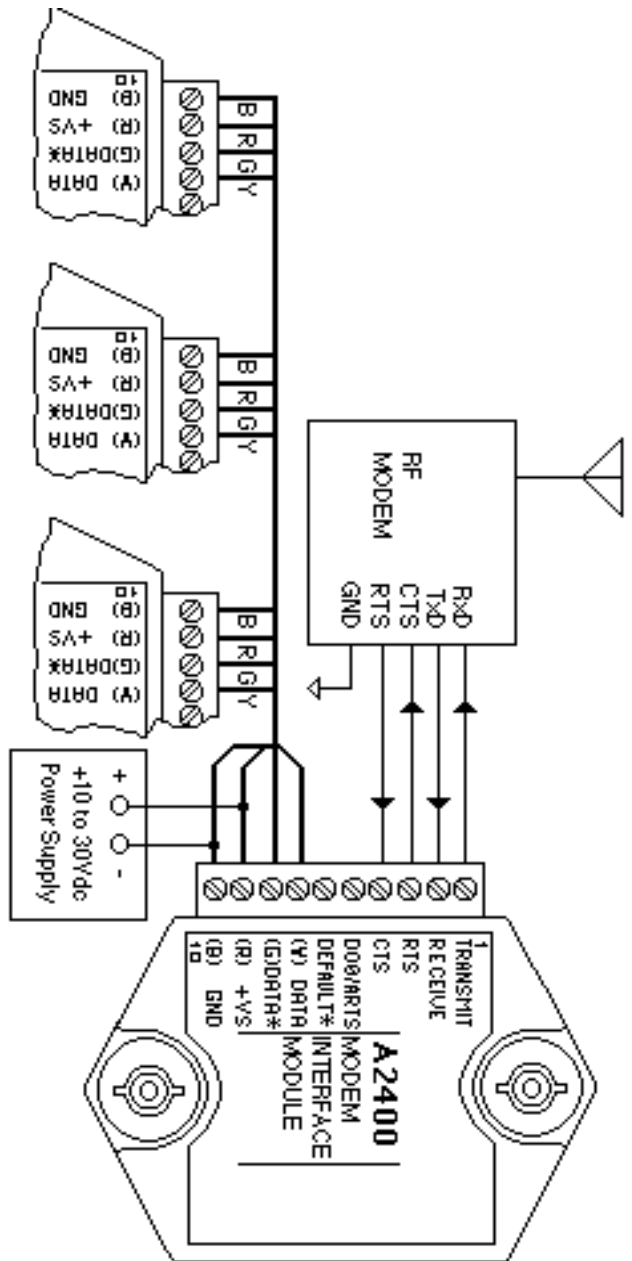

Figure 3.1 RS-485 System.
A typical installation is shown in Figure 3.1 (see Chapter 3). The A2400 is used to provide an interface between a modem and a string of standard modules. Each module and the A2400 has a unique address. In a typical communications sequence the host computer and radio (not shown) will transmit a module command over the air. The modem receiver picks up the message data and presents it to the A2400 on the RS-232 port.
Figure 3.1 illustrates the wiring required for multiple-module RS-485 system. Notice that every module has a direct connection to the A2400. Any number of modules may be unplugged without affecting the remaining modules. Each module must be setup with a unique address and the addresses can be in any order. All RS-485 modules must be setup for no echo to avoid bus conflicts (see Setup). Also note that the connector pins on each module are labelled with notations (B), (R), (G), and (Y). This designates the colors used on standard 4-wire telephone cable: